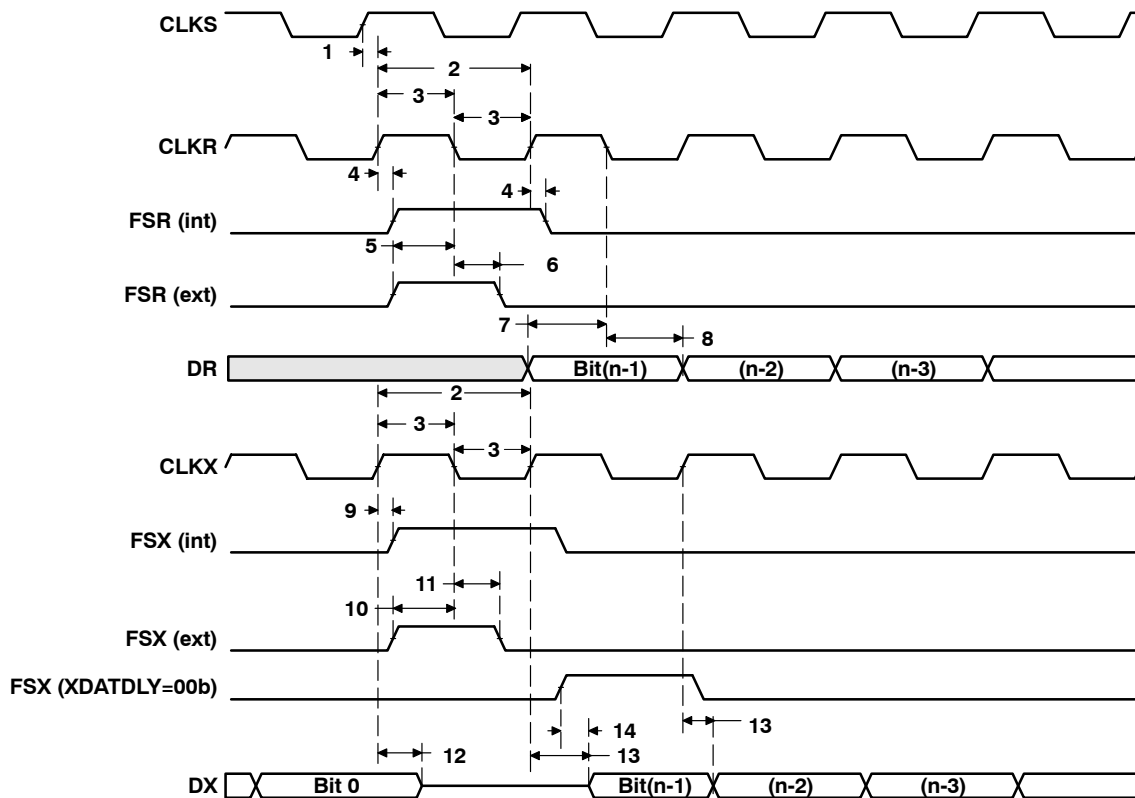

Figure 33. McBSP Timings
**timing requirements for McBSP†‡ (see Figure 33)**
switching characteristics over recommended operating conditions for McBSP†‡ (see Figure 33)